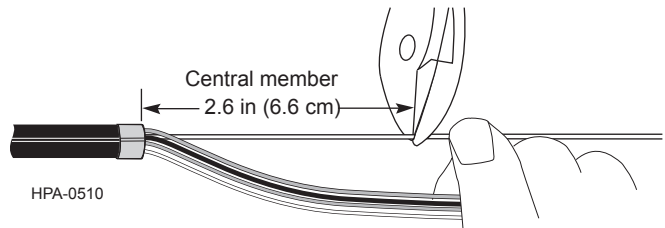

Figure 25
**Step 11:** Use side cutters to cut the dielectric central member to a length of 2.6 in (6.6 cm) from each end of the cable sheath (Figure 25).